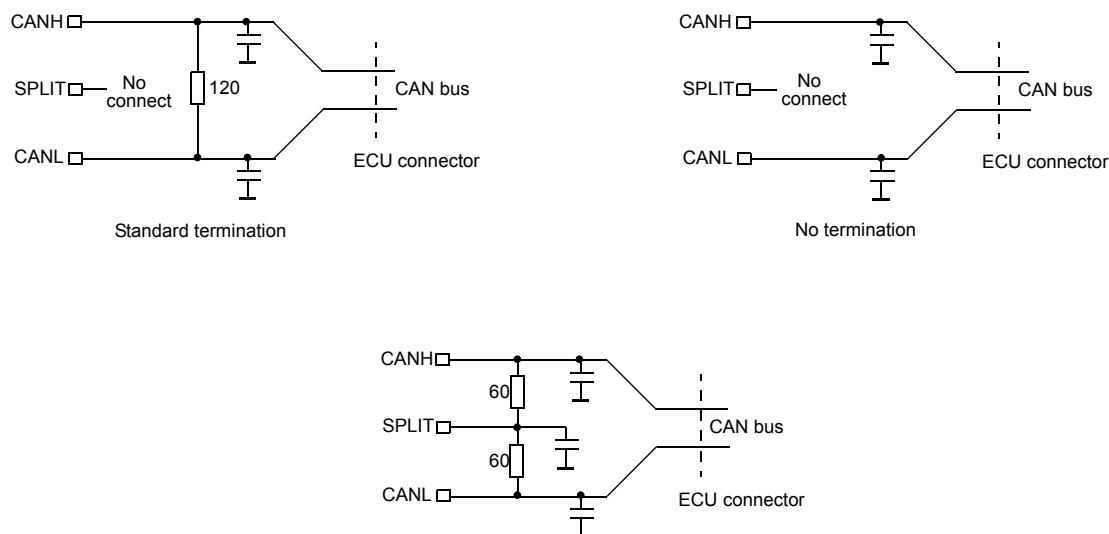

Figure 37. Bus Termination Options
- Figure 37 illustrates some of the most common terminations.